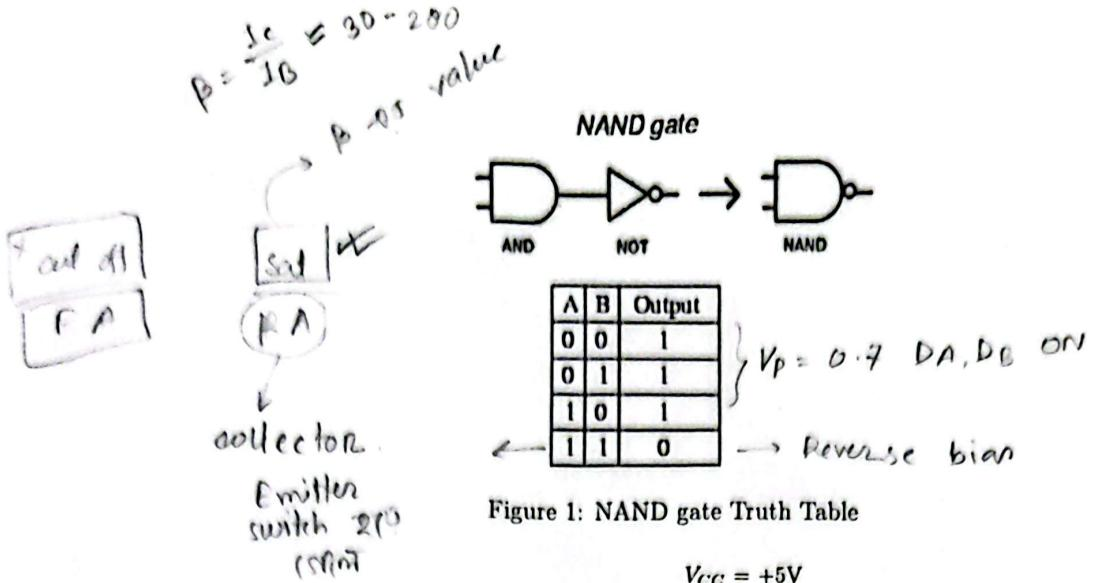
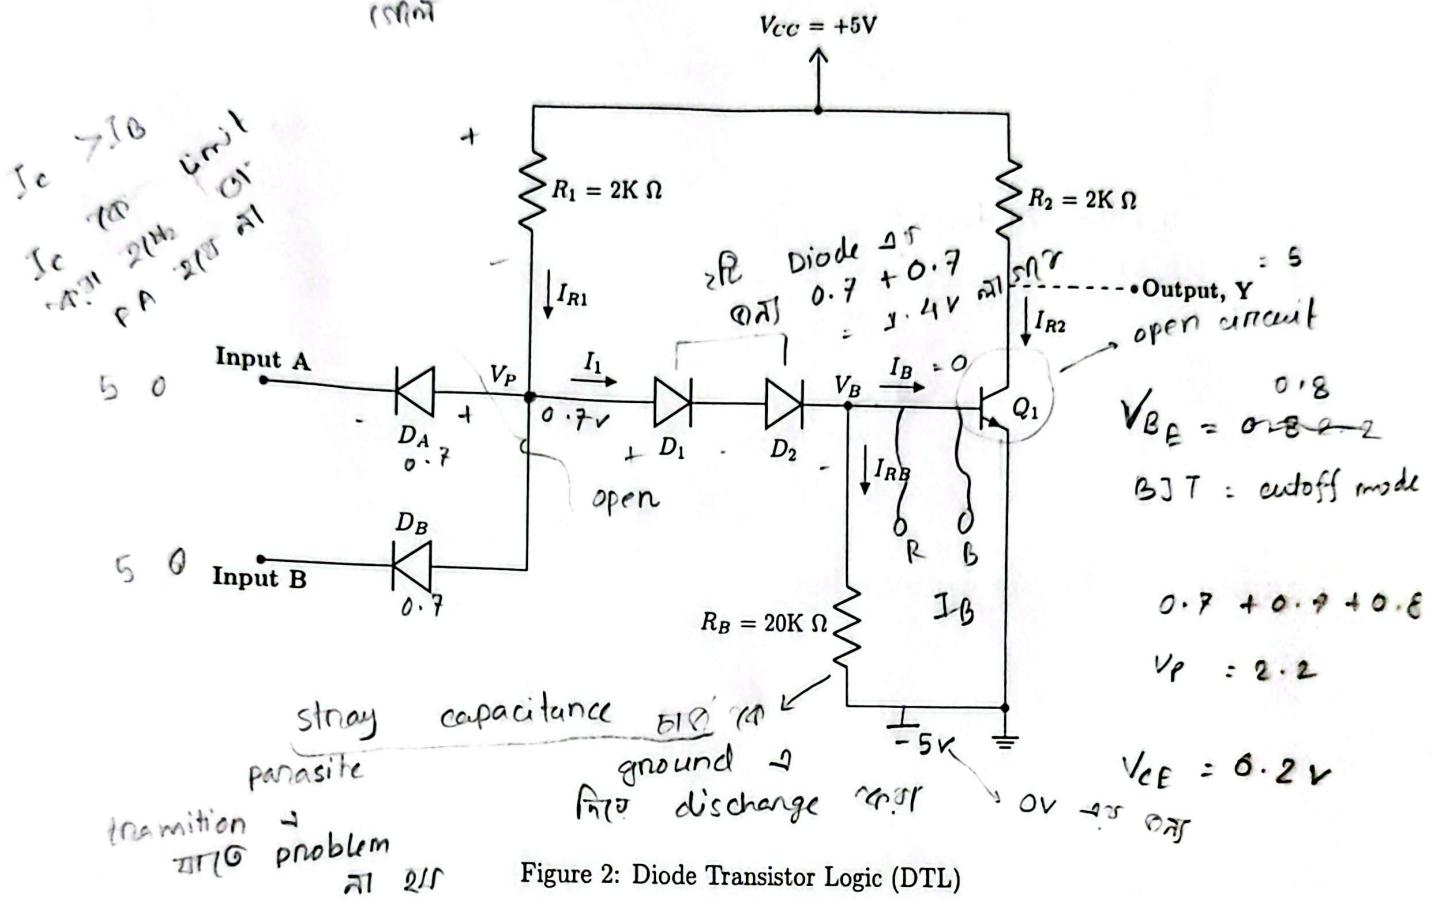

Figure 1: NAND gate Truth Table
Figure 2: Diode Transistor Logic (DTL)
In this task, we will implement a Diode Transistor Logic (DTL) NAND gate. As can be seen in Fig. 1, a 2-input NAND gate outputs a logical HIGH if at least one of the inputs is LOW. Otherwise, the output of the NAND gate is logical LOW. It can be created by passing the output of a AND gate through an Inverter or NOT gate. One can build all other logic gates using such NAND gates. The DTL implementation of a NAND circuit is shown in Fig. 2.
On the input side of Fig. 2, we can see two diodes in reverse bias connection with respect to input - this acts as an AND gate circuit according to diode logic. The output of this AND gate is fed to the inverter input V_B (base terminal of BJT Q_1) through the diodes D_1 and D_2 creating the NAND circuit. The output is obtained at the collector terminal of Q_1 .
As mentioned in the previous task, when either of the input terminals are HIGH, the corresponding diode operates in the reverse bias region - meaning it is virtually disconnected from the circuit. So we can say that if one of the inputs are set to logical HIGH, we can ignore that diode altogether, and the remaining diode input acts as a single input to the RTL inverter. Thus the resulting circuit acts as an inverter circuit (NOT gate). A roundabout way of explaining this is via the truth table of the NAND gate (Fig. 1) - when one input is set to HIGH, the output follows the inverted logic of the remaining input.
2. Connect the circuit as shown in Fig. 2.
4. Operate the gate in Fig. 2 as an inverter by connecting either of the inputs to +5V and using the remaining one as input terminal. Fill up table-3.
- Assume that the output of the circuit shown in Fig: 2 is LOW. Draw the partial circuit consisting of only those components which remain active.